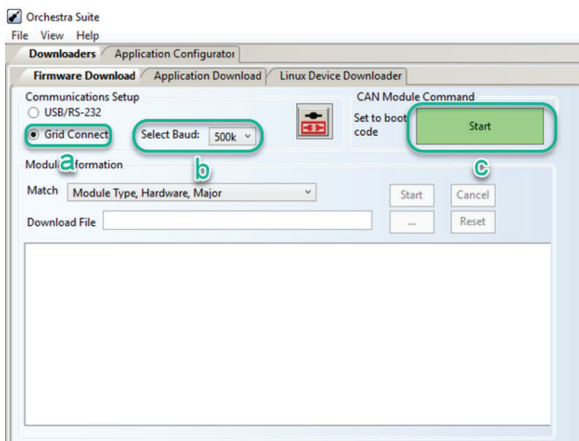

Figure 28
- e. On laptop open Orchestra. See Figure 28.
- f. Select the *Downloaders Tab* followed by the *Firmware Download* tab. See Figure 28.
- g. Select *Grid Connect* radio button. See Figure 28.
- h. Set *Select Baud* rate to 500k. See Figure 28.
- i. Click *Start* button. See Figure 28.